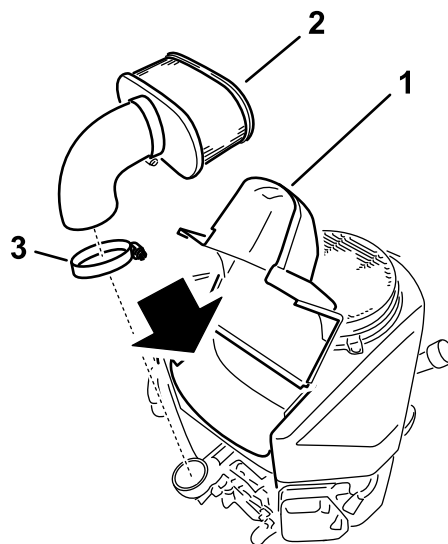

Figure 34
3. Clean around the air-cleaner cover to prevent dirt from getting into the engine and causing damage and lift the cover and remove the hose clamp securing the air cleaner assembly to the engine (Figure 34).
4. Loosen the hose clamp and remove the paper element (Figure 34).